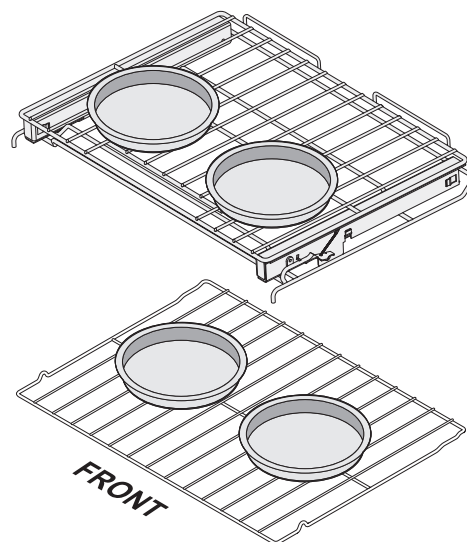

Figure 15: Pan spacing using multiple racks
- When using 2 oven racks for baking, position cookware allowing 2-4 inches (5-10cm) of space between the food items to ensure proper circulation. (Figure 15)